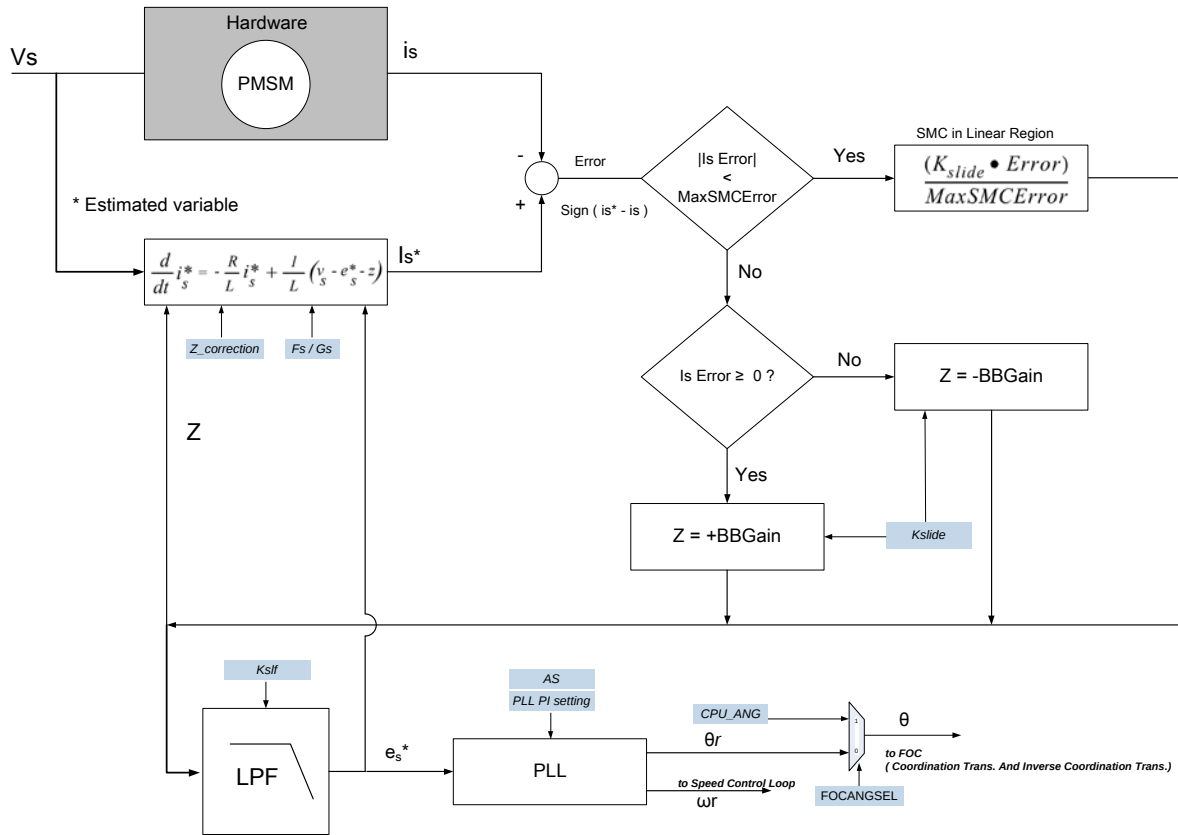

Figure 25.5.1 : SMO Rotor Position Estimation Block Architecture
The digitized model provides a software representation of the hardware. However, in order to match the measured current and estimated current, the digitized motor model needs to be corrected using the closed loop, as shown in Figure 25.5.1.
The sliding-mode controller has a limit value MaxSMCErr. When the error value is lesser than the MaxSMCErr, the output of sliding-mode controller works in the linear range as given by the equation beneath the PMSM block in Figure 25.5.1. K_{slide} parameter can be setting via K_{slide} SRF (see Table25.5.1).
After compensating the digitized model, you have a motor model with the same variable values for the input voltage (V_s) and for current (i_s^*). Once the digitized model is compensated, the next step is to estimate BEMF (e_s^*) by filtering the correction factor (Z), as shown in Figure 25.5.1. The BEMF estimation (e_s^*) is fed back to the model to update the variable e_s^* after every control cycle. Values e_α and e_β (vector components of e_s) are used for the estimated Theta calculation.
The θ of FOC (see Figure 25.5.1), is designed with a Multiplexer that select signal is FOCANGSEL (MOTOR_CONT1[3], SFR Address = BFH). When FOCANGSEL= 1, FOC_ANG = CPU_ANG (page4 of FOC_D, Table25.4.3), if FOCANGSEL = 0, FOC_ANG = θ_r to FOC (see Figure 25.5.1).